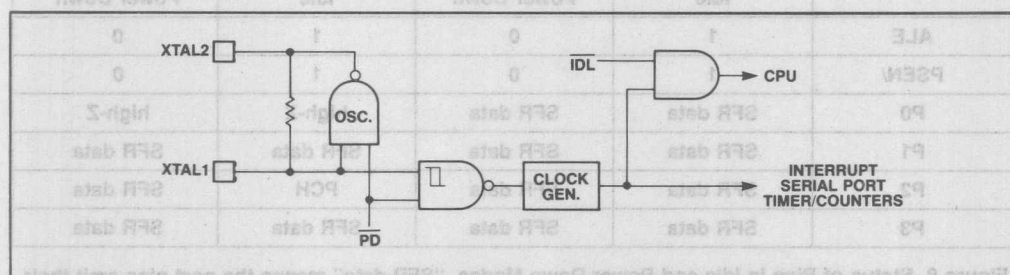

Figure 7. Oscillator and Clock Circuitry showing Idle and Power Down hardware.
The 80C51BH has two power-saving features not available in the HMOS devices. These are the Idle and Power Down modes of operation. The on-chip hardware that implements these reduced power modes is shown in Figure 7. Both modes are invoked by software.
**Idle:** In the Idle Mode ( $\overline{IDL} = 0$  in Figure 7), the CPU puts itself to sleep by gating off its own clock. It doesn't stop the oscillator. It just stops the internal clock signal from getting to the CPU. Since the CPU draws 80 to 90 percent of the chip's power, shutting it off represents a fairly significant power savings. The on-chip peripherals (timers, serial port, interrupts, etc.) and RAM continue to function as normal. The CPU status is preserved in its entirety: the Stack Pointer, Program Counter, Program Status Word, Accumulator, and all other registers maintain their data during Idle.
**Power Down:** In the Power Down Mode ( $\overline{PD} = 0$  in Figure 7), the CPU puts the whole chip to sleep by turning off the oscillator. In case it was running from an external oscillator, it also gates off the path to the internal phase generators, so no internal clock is generated even if the external oscillator is still running. The on-chip RAM, however, saves its data, as long as  $V_{CC}$  is maintained. In this mode the only  $I_{CC}$  that flows is leakage, which is normally in the micro-amp range.